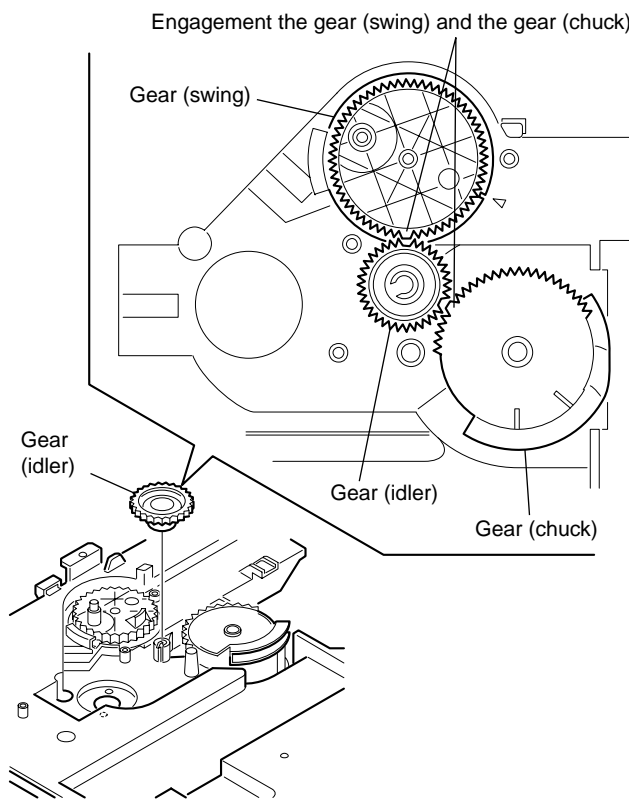

Fig. 7
- 5) Mount the gear (idler) while aligning the engagement of the gear (swing) and the gear (chuck). (See Fig. 7)